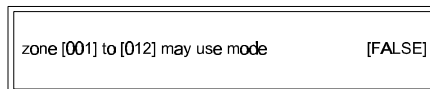

Figure 63: Delayed Mode Zone Assignment
- Figure 63 shows that zones 1 through 12 will not use the Day Mode. The panel will activate indicator devices immediately on determining an alarm condition exists. Change the items in the brackets by using the “<” and “>” keys to select the item and typing over with the desired number. Use the **Change** key to toggle between “[FALSE]” and “[TRUE]”. At the end of the Delayed Mode settings, the display returns to Commission Menu 3.